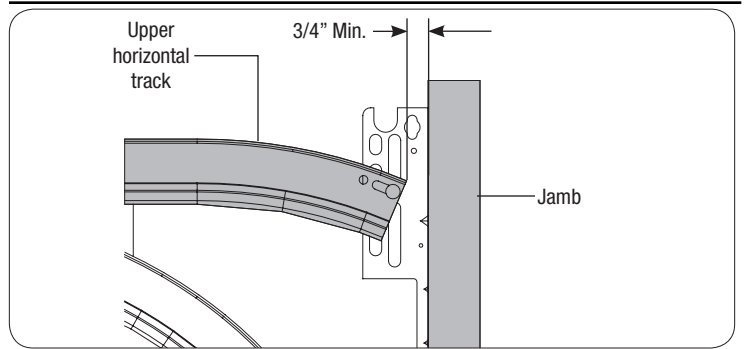

FIGURE 4.2
**NOTE:** Check the clearance between the upper curve and the jamb. The clearance must be a minimum of 3/4", as shown in FIG. 4.2. If it is less than 3/4" trim the top curve with a hacksaw to ensure counterbalance cable clearance.